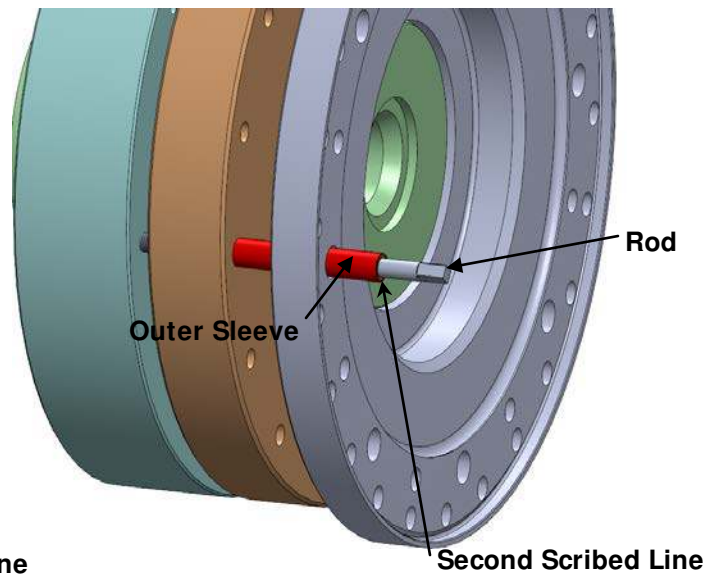

Figure 6b - Setting Final Position
3.4.12 Apply more hydraulic pressure. The HTC halves will separate causing the outer sleeve of the tool to move towards the second scribe line on the rod. When the outer sleeve is aligned with the second scribe line as shown in figure 6b, stop the hydraulic pump while holding pressure. This is the final position of the clamp. Hold hydraulic pressure here for the next step.